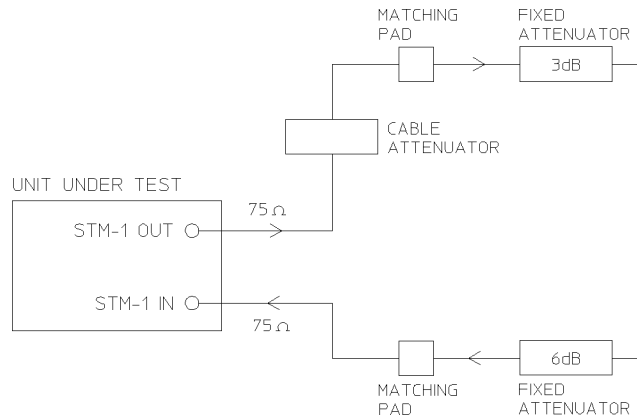

Figure 3-65
3. Connect up the equipment as shown in Figure 3-65.